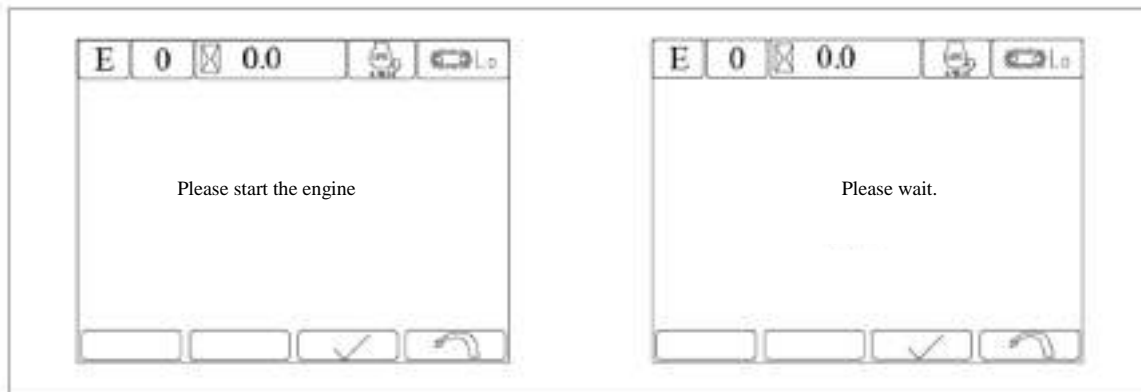

Figure 3-25 Engine startup interface
d) Please start the engine: skip this if the engine has been started; the interface is shown in Figure 3-25.